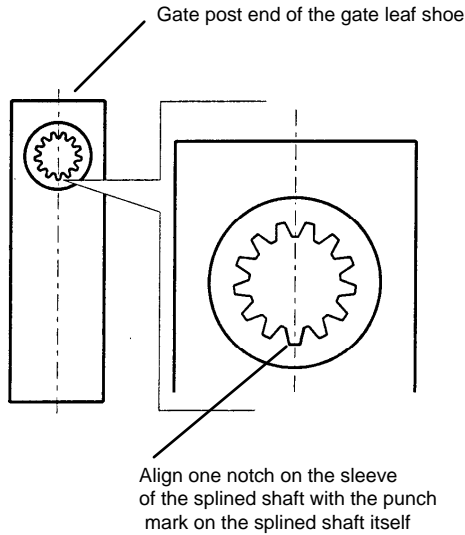

Figure 11. Center one notch along the centerline of the gate leaf shoe and place over the punch mark on the splined shaft.
2. Center one notch on the sleeve along the centerline of the gate leaf (see Figure 11). You can then align this centered notch with the punch mark on the splined shaft of the pinion as a reference in case you ever need to remove the shoe later.